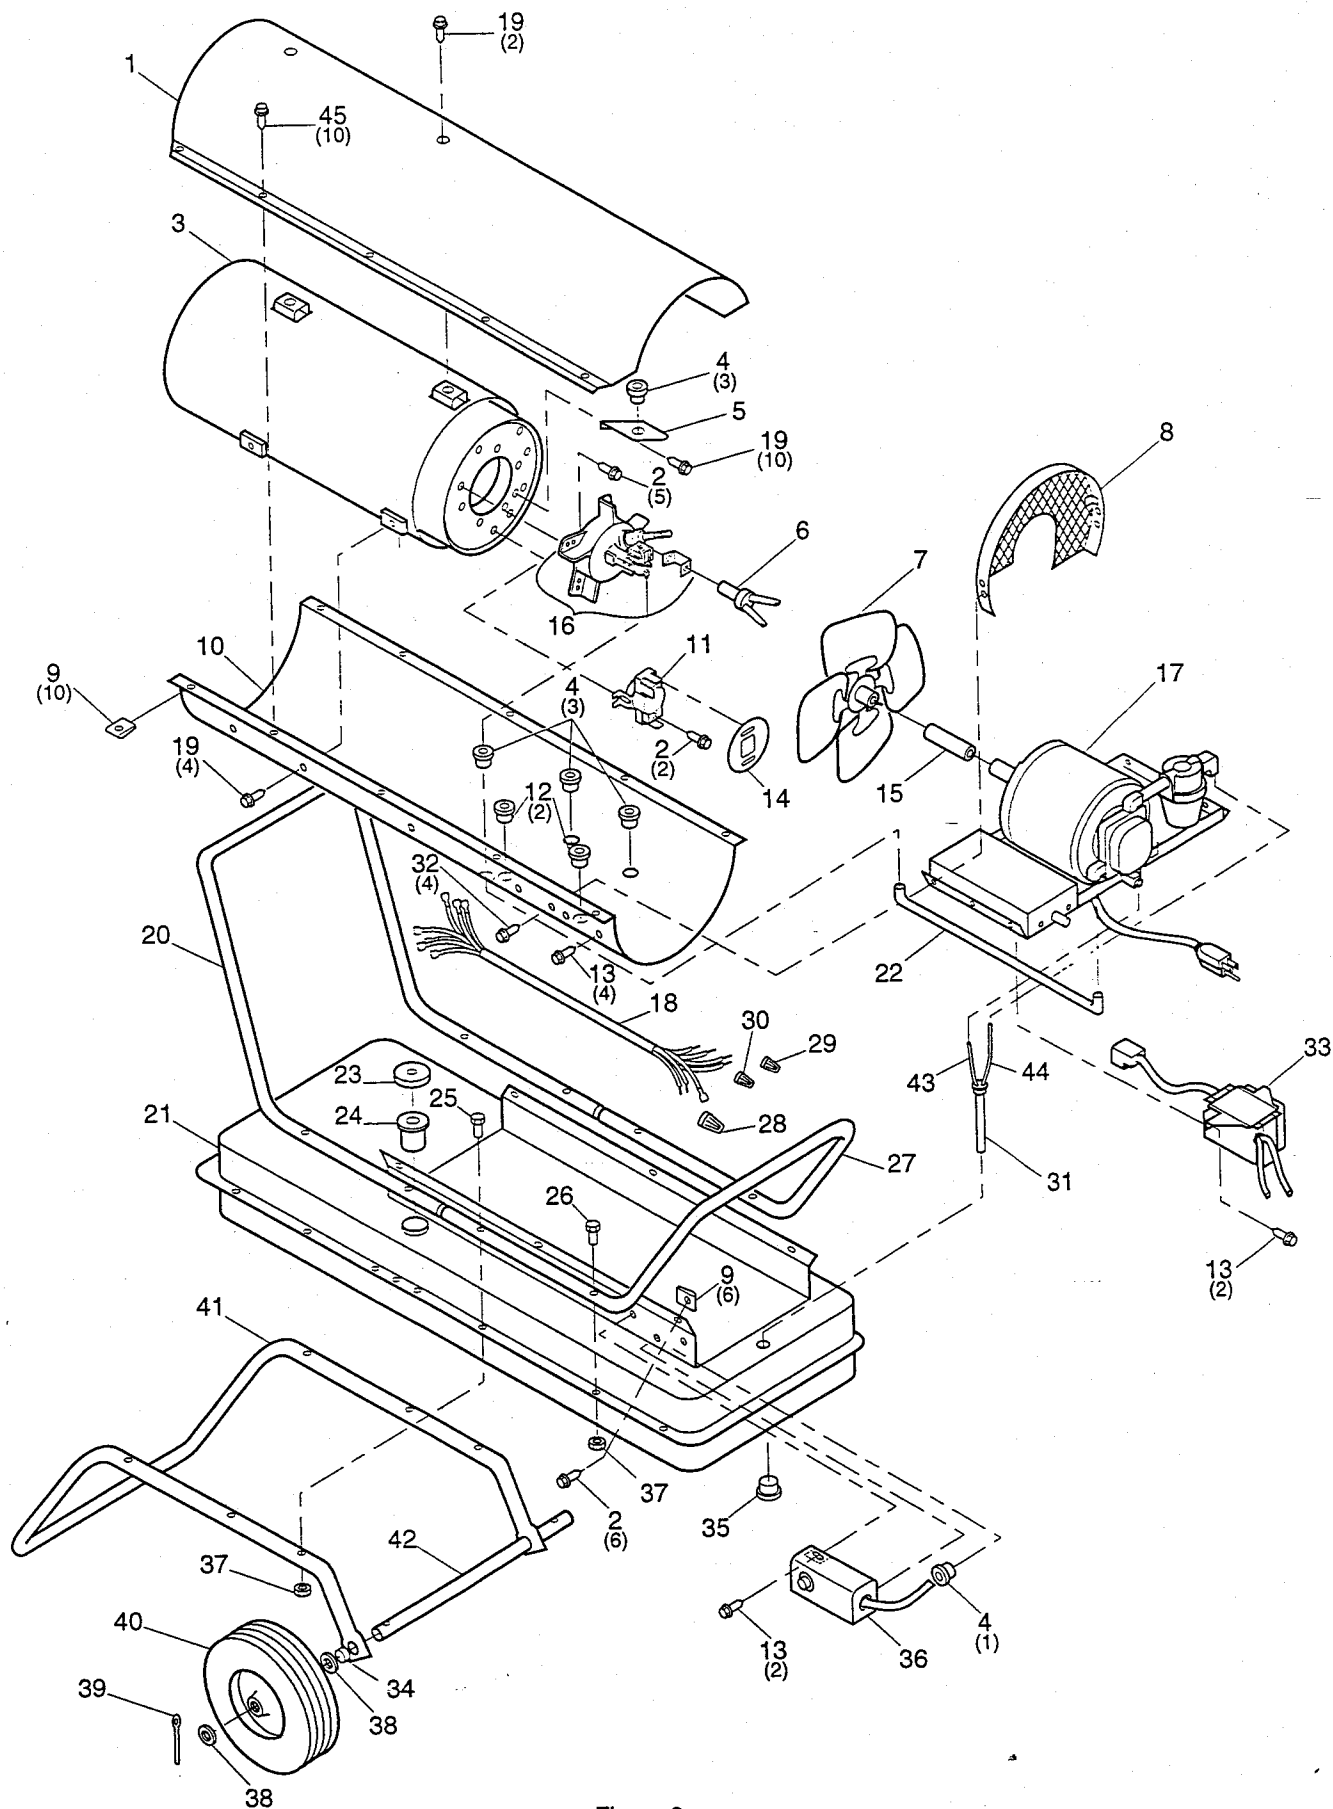

Figure 3
1. For access to the nozzle (see Figures 3 & 5) remove the upper shell. Disconnect the fuel line and spark plug lead from the burner head. Remove the screws attaching the burner head assembly to the combustion chamber.